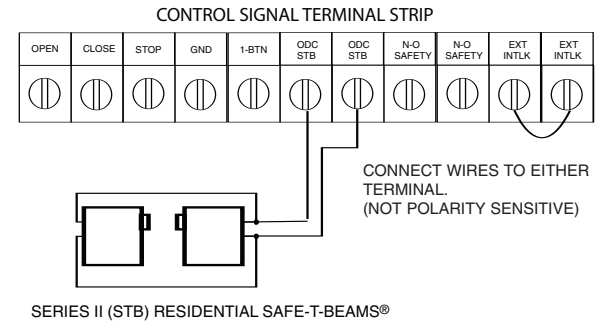

Figure 9
1) Monitored SERIES II (STB) photocells (P/N 35048R.S) can be installed as shown in **Fig. 9**. Wiring to these photocells can be connected to either terminal (they are not polarity sensitive). (**Troubleshooting Section is Appendix D**).